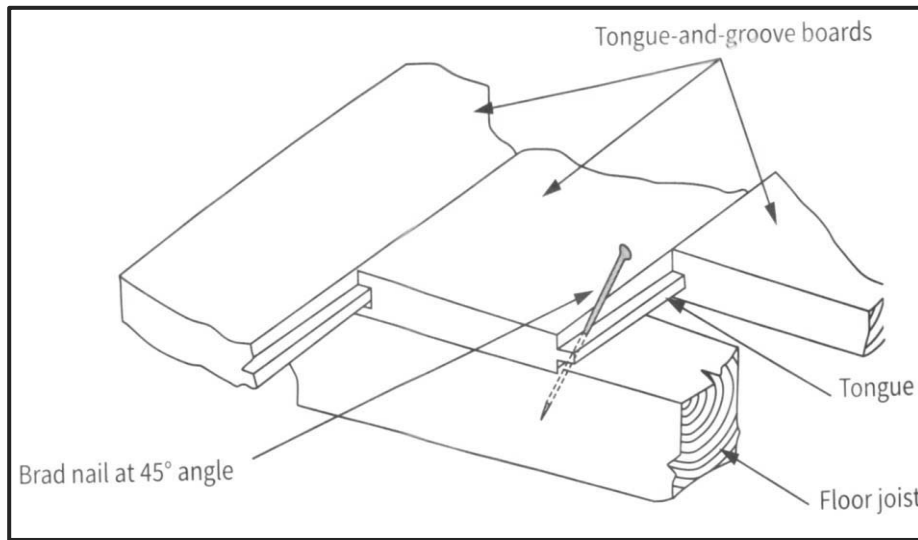

FIGURE 6.3
- 6.3 FIGURE 6.3 below shows a particular method of joining suspended floors. Study the drawing and answer the questions that follow.
- 6.3.1 Identify the method in FIGURE 6.3. (1)